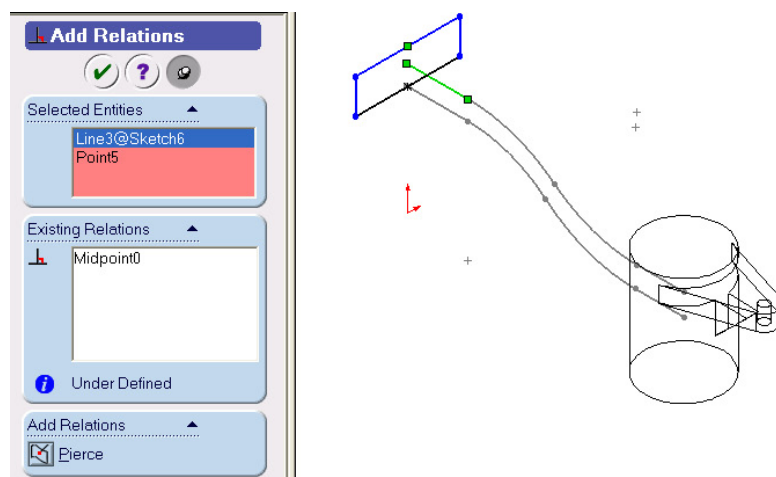

Figure 11 Pierce Constraint between Profile and Guide Curve
20. Select the guide curve, and the top point, and apply **Pierce**  constraint as shown in Figure 11.